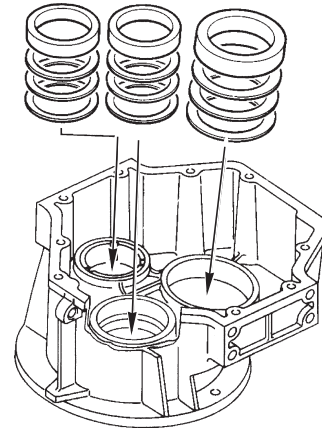

FIG. 5-2
Heat input half housing in an oven to approx. 120 °C (248 °F) and insert shims and outer races of bearings into it (item 1, Fig. 5-2).